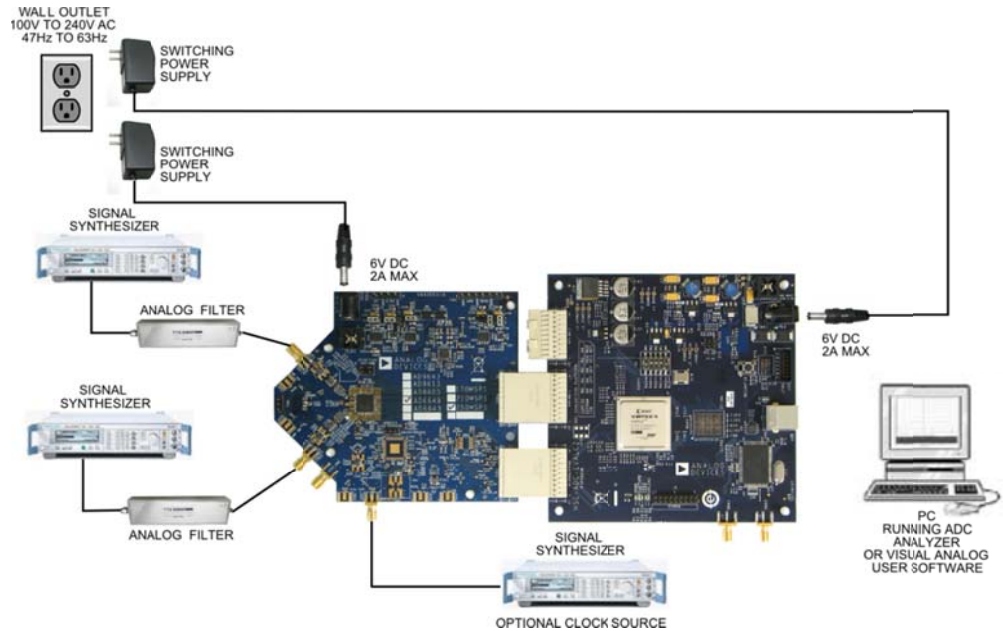

Figure 1: AD6649 Evaluation Board with HSC-ADC_EVALCZ Data Capture Board
1. Connect the AD6649 evaluation board and the HSC-ADC-EVALCZ board together as shown in Figure 1.
9. Next open the SPI Controller software. If prompted for a configuration file, select the file titled AD6649spiR03.cfg. If not, check the title bar of the window to see which configuration is loaded. If necessary, choose “Cfgr Open” from the “File” menu and select the configuration file named above. Note that the CHIP ID(1) field may be filled whether the correct SPI Controller configuration file is loaded or not.
11. Set the DCO Clk Delay Enable checkbox in the FLEXOUTPUT DELAY(17) panel on the ADCBase0 tab as shown below. In addition, set the DCO Clk Delay register to the ‘600ps additional delay on DCO pin’. These settings align the output timing with the input timing on the capture FPGA.